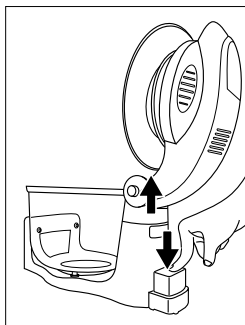

Fig 3
- Press the Extension Device Button downward to release the lock and lift the lid to expanded position (Fig 3).